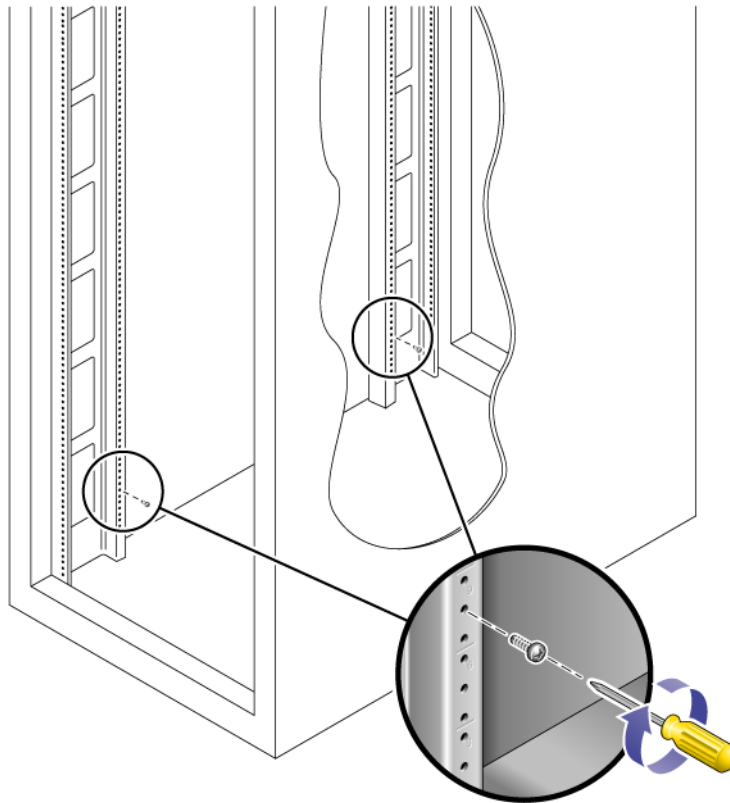

FIGURE 2-20 Inserting Rail Mounting Screws in Middle Holes of the Upper Mounting Unit of the Mounting Slot
1. In each of the four inner mounting rails, insert a 10-32 screw in the center hole of the mounting unit of the 3RU slot in which the tray is to be mounted (FIGURE 2-20).